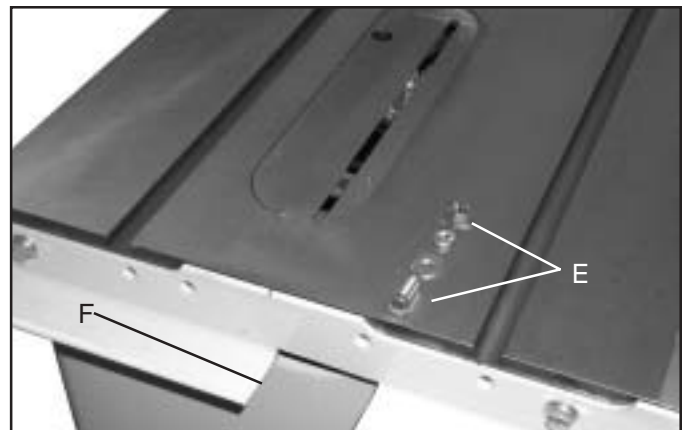

Fig. 9
For Delta Contractor's Saws Fasten rail to the saw using the two 3/8-24 x 1-1/4" hex head screws, lock washers, flat washers and hex nuts (E) supplied Fig. 9. The lock washer, flat washer and hex nut will be on the inside edge of the saw table.
4. After fastening the rear rail to the saw table, tilt the saw blade to make certain there is no interference between the guard splitter and the rear rail. If there is, it will be necessary to enlarge the cut-out (F) in the rear rail.